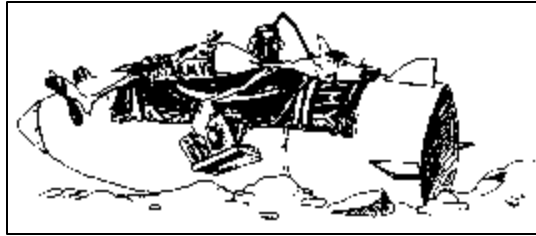

Figure 5. Avoid the area where a UXO is located.
- Stay away from UXOs. See Figure 5. This is the best way to prevent accidental injury or death.